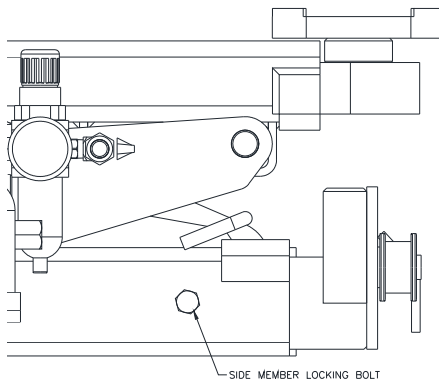

Fig. 3
- 3) Once side members are adjusted and jack is centered between the rails, tighten the (4) hex bolts (2 per side) to lock in place, Fig 3.